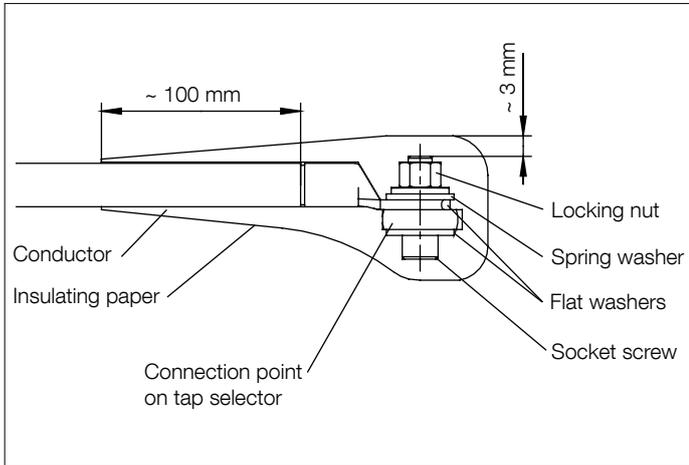

Fig. 7.
10. If the impulse withstand voltage to ground (BIL) exceeds 380 kV, insulate the connections on the tap selector by winding paper around them to a thickness of approximately 3 mm; see Fig. 7. The paper should be of the same quality as used for insulation of conductors within the active part of the transformer.
If the impulse withstand voltage to ground exceeds 380 kV, the conductor connections on the tap selector shall be insulated by winding paper around them to a thickness of 3 mm; see Fig. 7. The paper should be of the same quality as used for insulating conductors within the active part of the transformer.